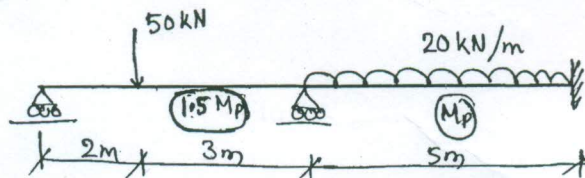

Fig Q4(c)
- c. Determine the plastic moment capacity ( $M_p$ ) for the beam loaded as shown in Fig Q4(c). Use load factor 1.6. (10 Marks)